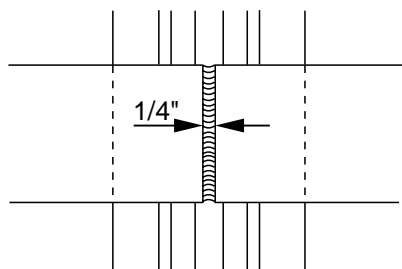

FIGURE 2
STEP 4: Install exterior horizontal covers. Covers should not exceed a maximum of 10 feet. If an elevation is longer than 10 feet, splice the horizontal covers at mullions as shown (**Figure 2**).